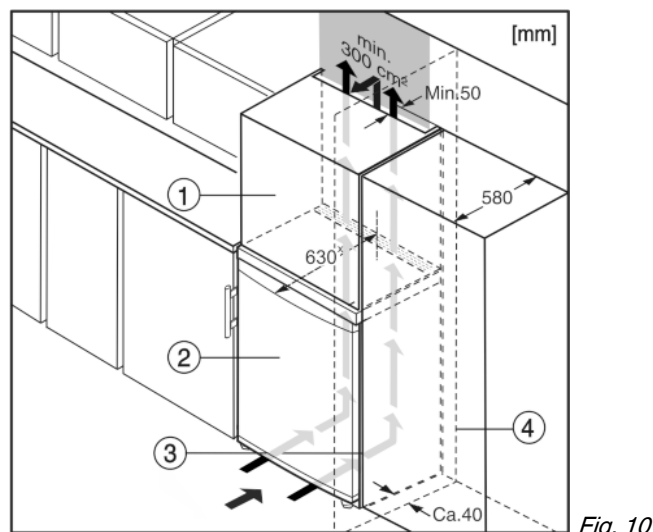

Fig. 10
- (1) Stack cabinet* (3) Kitchen cabinet*
(2) Appliance* (4) Wall*
The appliance can be built into kitchen units. A top cupboard *Fig. 10 (2)* can be added above the appliance in order to bring the appliance *Fig. 10 (1)* up to the height of the fitted kitchen units.
When installing with kitchen units (max. depth 580 mm), the appliance can be positioned directly next to the kitchen cabinet *Fig. 10 (3)*. The appliance will project by 34 mm * at the sides and 50 mm * in the centre of the appliance in relation to the kitchen cabinet front.*
If the appliance is installed with the hinges next to a wall *Fig. 10 (4)*, the distance between appliance and wall has to be at least 40 mm. This corresponds to the projection of the handle when the door is open.*